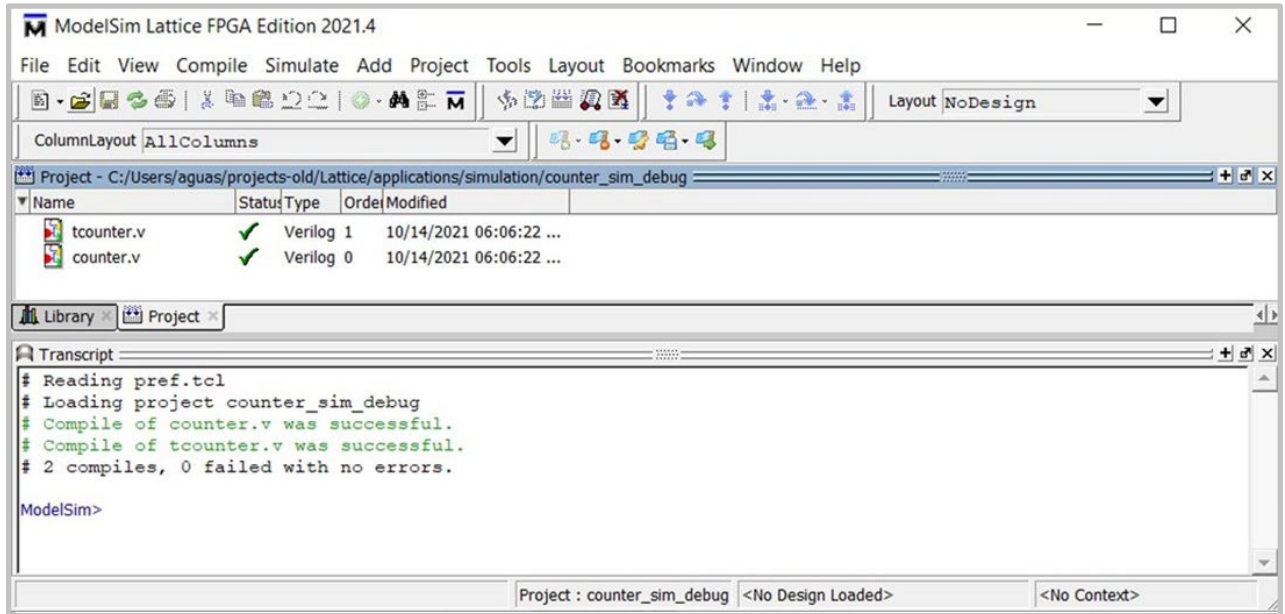

Figure 5: Compiling the Project
- Form the top menu, select **Compile > Compile All** to compile **tcounter.v** and **counter.v**, see **Figure 5**.